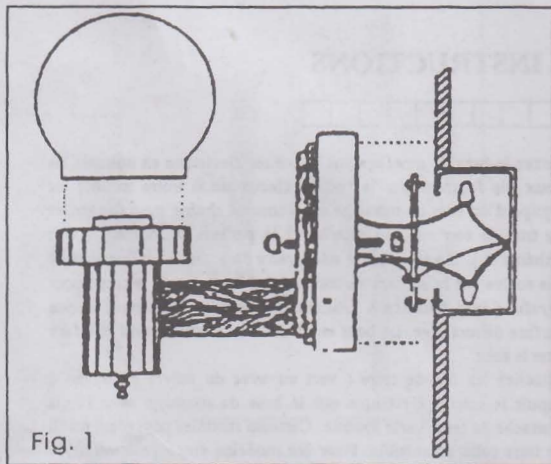
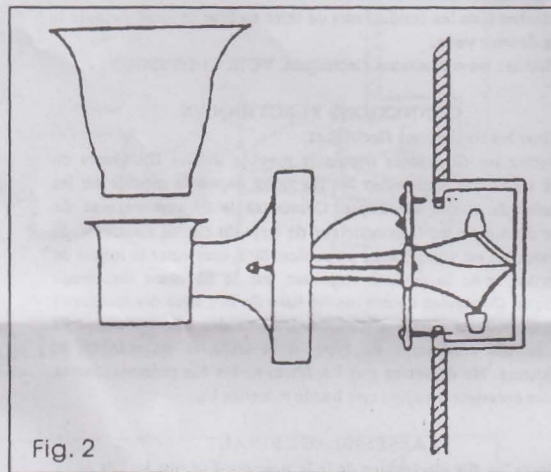
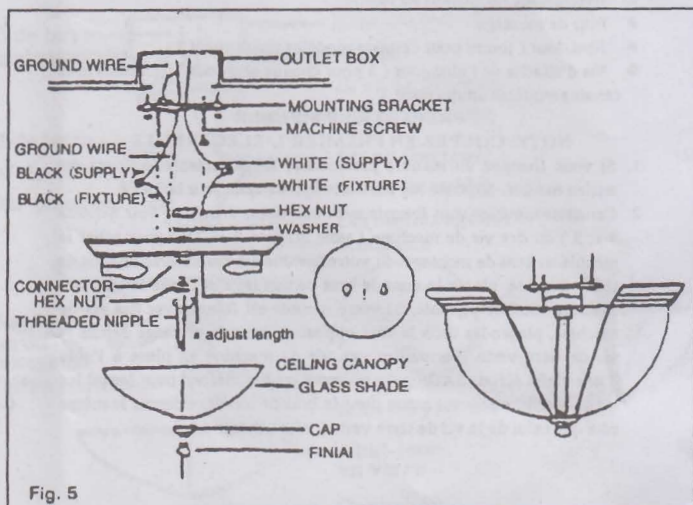

Fig. 1
Fig. 2
Fig. 5
INSTALLATION: FIGURE 1
2. Some fixtures are provided with a threaded nipple (see Fig. 1 and Fig. 5) or machine screws (see Fig. 2 and 2A) for attaching the fixture to the mounting bracket. If your fixture is supplied with a threaded nipple screw, the nipple is complete. Insert into the mounting bracket and lock into place with a hexagonal lock nut. If your fixture is supplied with machine screw, thread the machine